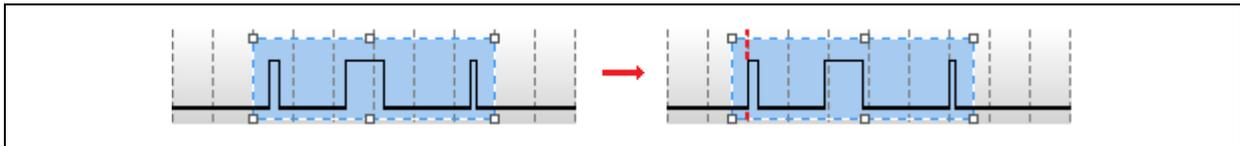

Figure 23
- When only Align to Grid is enabled, the waveform is pasted in such a way that the leftmost edge is aligned to the nearest grid. (Figure 23)